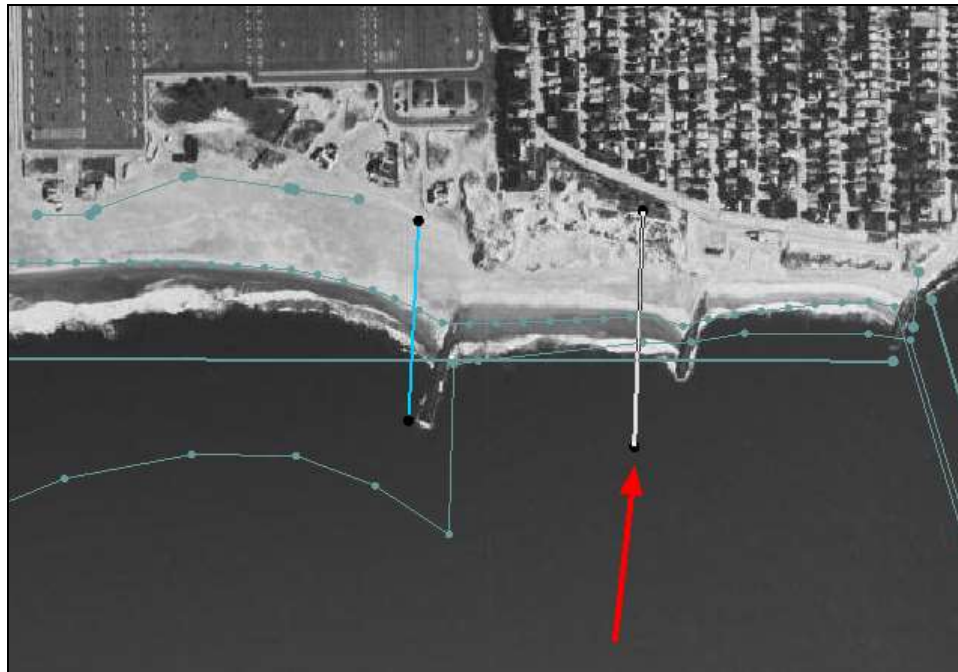

Figure 4 Groin that needs to be defined
2. Using the **Select Feature Arc**  tool, double-click on the groin just to the west of the right jetty at Jones Inlet (Figure 4) to bring up the *GenCade Arc Attributes* dialog.